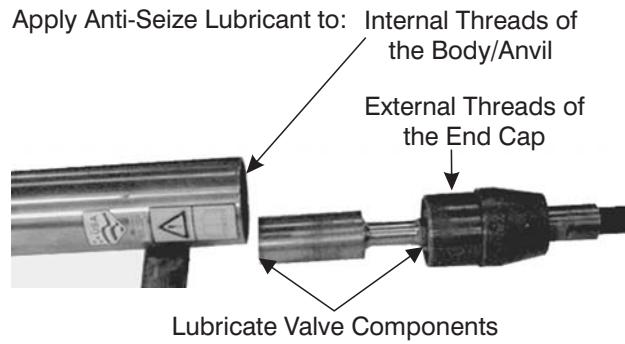

Figure 11-26. Prepare Tail Assembly and Body Anvil for Assembly.
- 3. Apply anti-seize thread lubricant sparingly to the threads of the End Cap (9) and the Body/Anvil (1) as shown in Figure 11-26.